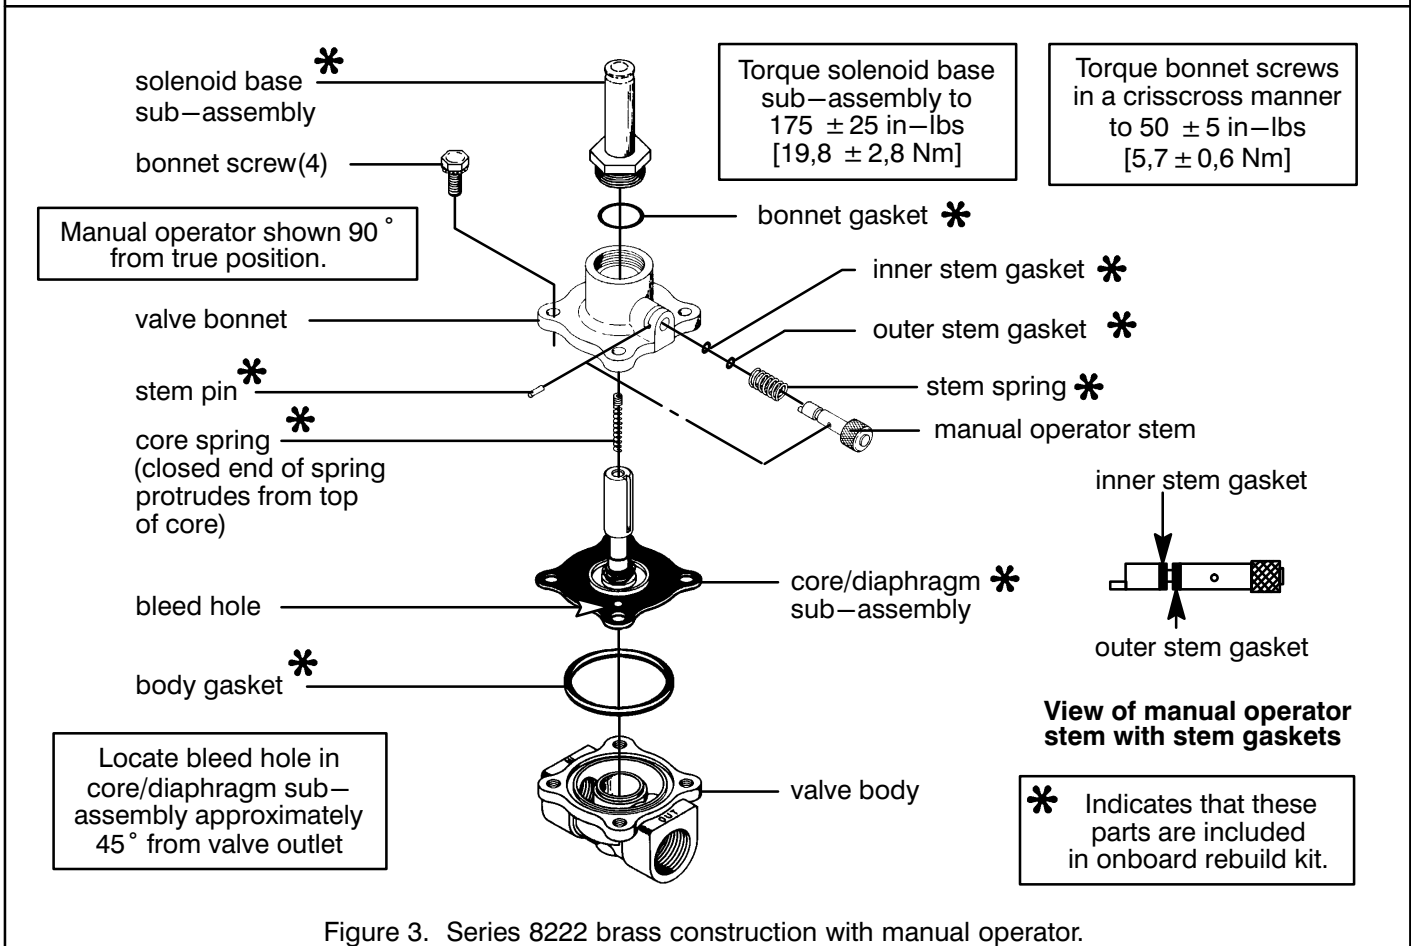

Figure 3. Series 8222 brass construction with manual operator.
5. For valves made of brass (Figure 3) with a manual operator, it is not necessary to disassemble manual operator for normal maintenance (cleaning). However, if a rebuild kit is being installed, remove stem pin, manual operator stem, stem spring, and stem gaskets.
7. For valves of brass construction (Figure 3) with a manual operator, proceed as follows: